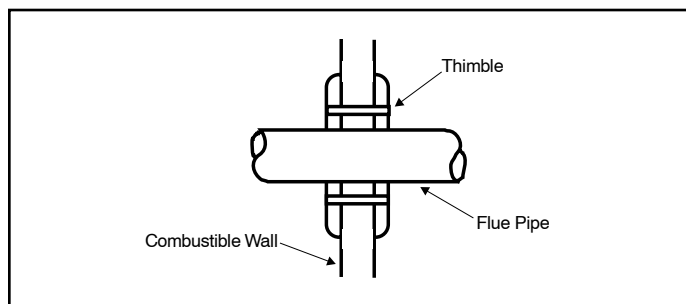

Figure 2. Wall Thimble
7. The flue pipe may pass through a wall where provisions have been made for a thimble as specified in the Standards of the National Board of Fire Underwriters (see Figure 2).